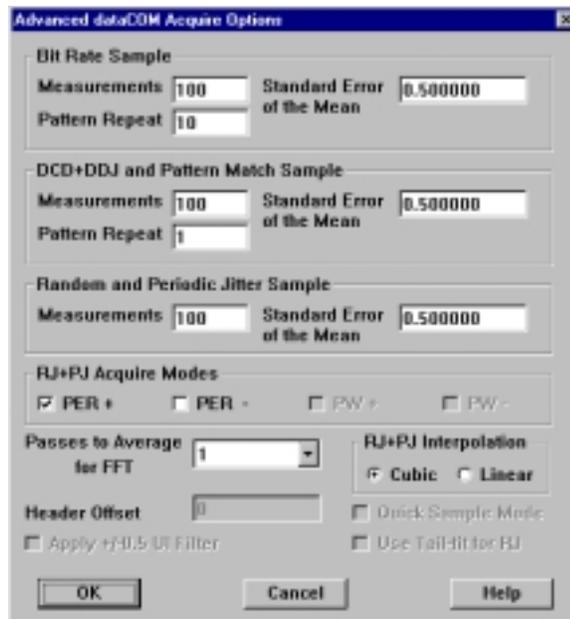

Figure 4.34 Advanced Acquire Options
- **Advanced** - Provides access to additional acquisition parameters. (See Figure 4.34.)